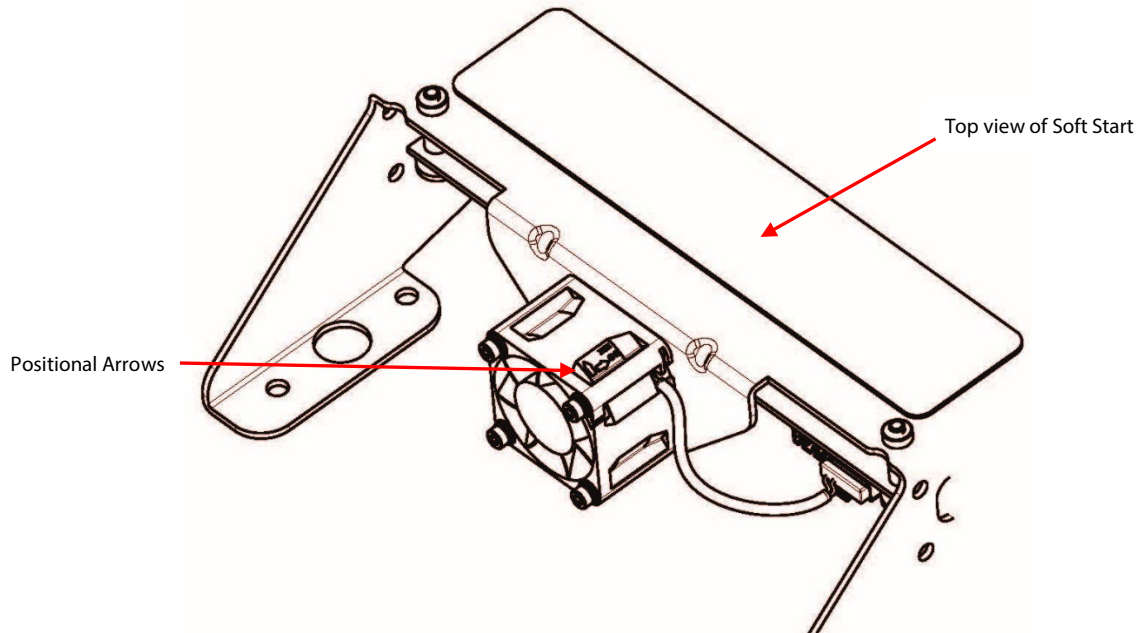

Figure 7. Fan Orientation W/O Adapter
2. Orient the fan so the vertical arrow is pointing up and the horizontal arrow is pointing toward the Soft Start Board, directing the fan blade away from the Soft Start Board. Refer to Figure 7 (Fan Orientation W/O Adapter Board).